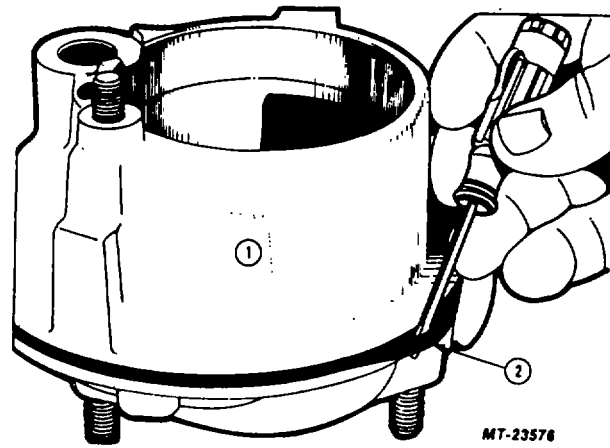

Fig. 42 Housing-to-Reservoir Gasket
- 21. Install a new pump housing-to-reservoir O- ring in the pump housing groove, Figure 42. Gasket should be installed with color side out.